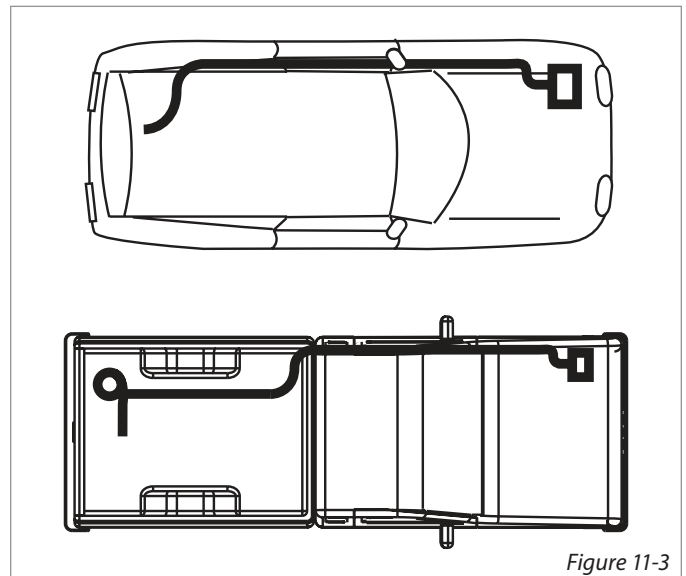

Figure 11-3
3. Run the vehicle harness to the rear cargo area/trunk. Run the wire under and through the vehicle whenever possible, gaining entry into the vehicle through the firewall. [Figure 11-3]